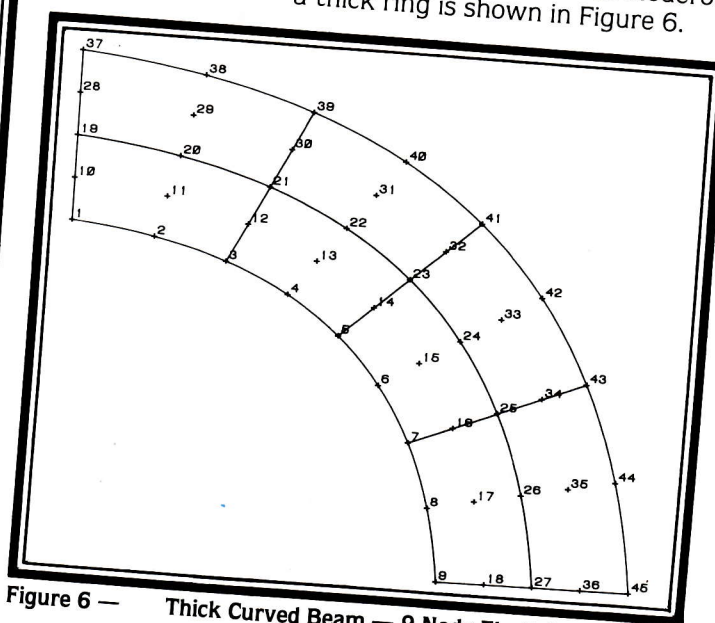

Figure 6 — Thick Curved Beam — 9 Node Elasticity Elements
F) The Plane Stress and Plane Strain Elements: used to model the planar motion of thick elastic structures, including thick beams, arches and rings. In addition, these elements can be used to model mechanical parts, shear walls, thin panels, and other assorted structures. These elements have a variable number of nodes—from three to nine. They can be highly complicated parts. A typical plane stress model of a thick ring is shown in Figure 6.